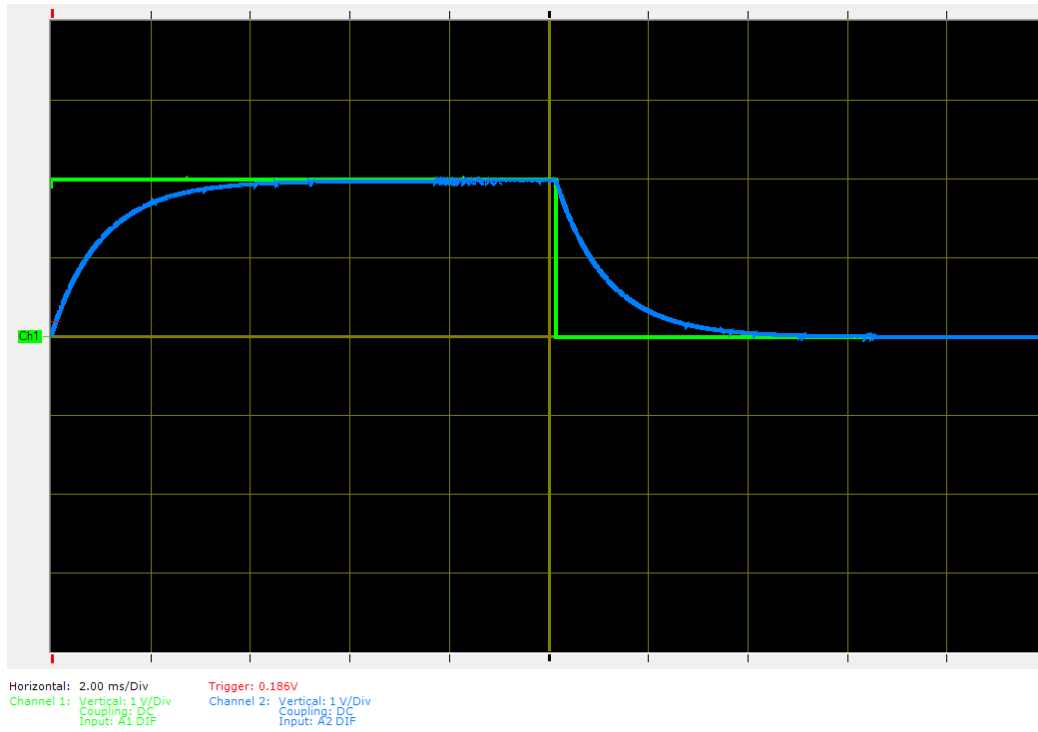

**Figure 5.** Prefilter, differential amplifier, and proportional controller.
5) Connect the first three stages of your system, as shown in Figure 5. The output should match the input. If it does not, modify the variable resistor on the controller. Be sure to remove the load resistor before you go on.